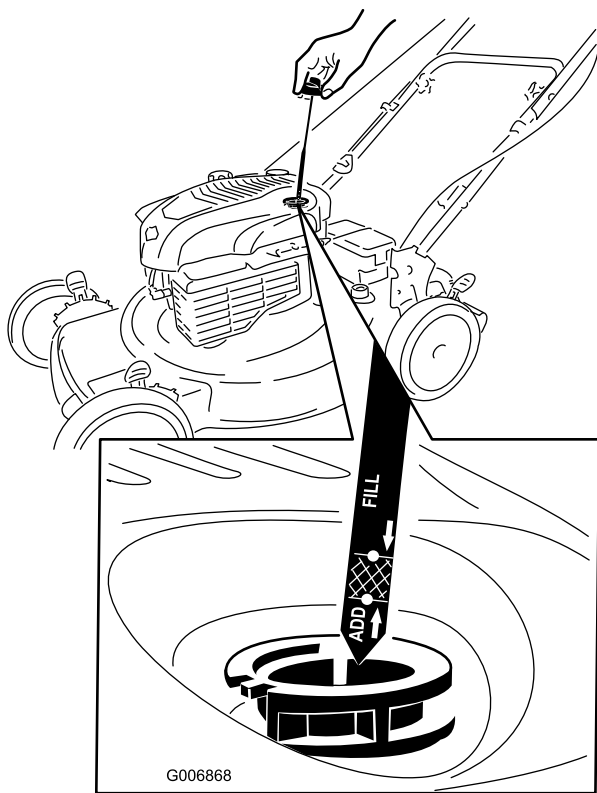

Figure 26
2. Remove the dipstick (Figure 26).
4. **Slowly** pour oil into the oil fill tube until the oil level reaches the **Full** line on the dipstick (Figure 26). **Do not overfill.** (Max. fill: 20 oz. (0.59 l), type: SAE 30 detergent oil with an API service classification of SF, SG, SH, SJ, SL, or higher.)